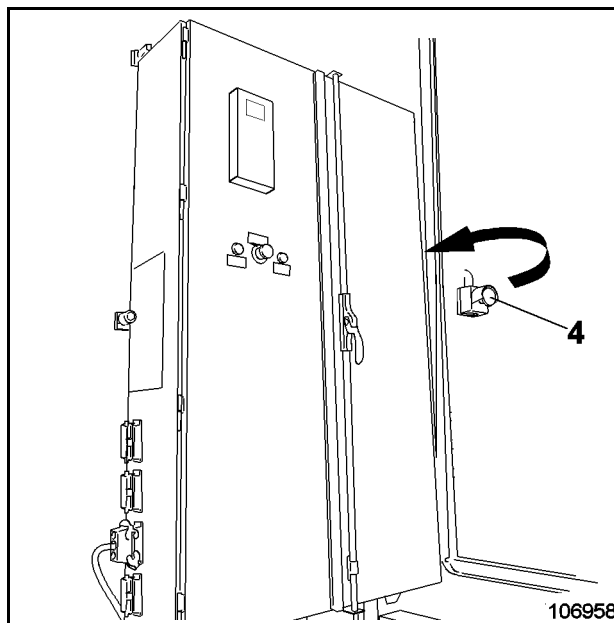

Fig. 3-18:
- Set servicing switch (4, Fig. 3-18:) to locked position and secure in this position with a padlock.
- After finishing work on the electric motor remove the padlock from servicing switch (4, Fig. 3-18:) and unlock.